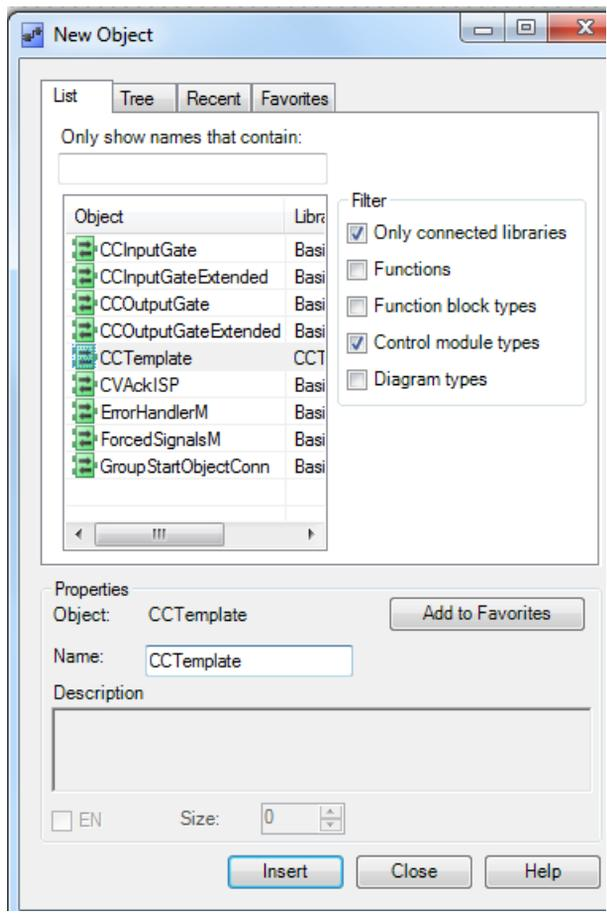

Figure 44. New Object dialog box
- b. In the New Object dialog box, select **CCTemplate** under the List tab. In the Name field, enter the name of the instance as *CCTemplate* (see Figure 44)